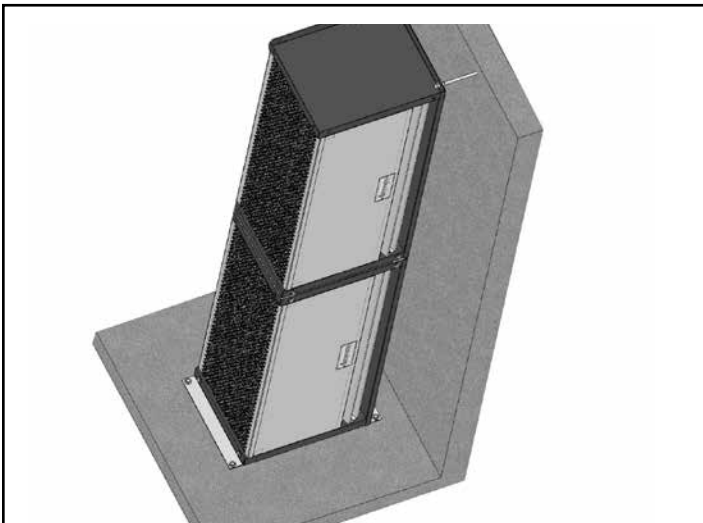

FIGURE 7 - Increased Stability for Vertical Mounting
- E. To improve the stability of the installation, it is required that the top of the unit be attached to the wall. A common approach is to attach a minimum length of $\frac{3}{8}$ " threaded rod through one of the open mounting holes in the top end plate and affix the other end of the rod to the wall. See Figure 7.